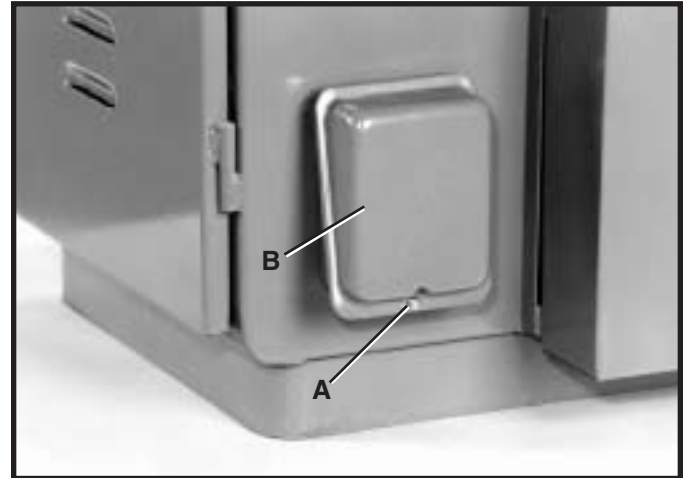

Fig. 12
1. Remove screw (A) Fig. 12, and terminal strip cover (B).